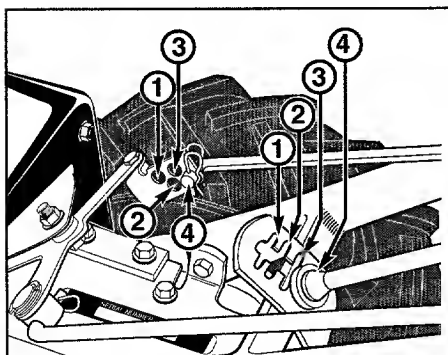

Figure 3-6: Handlebar height slots and clutch swivel plate holes.
- (b) There are four numbered holes in the clutch swivel plate (see Figure 3-6) and four numbered slots in the curved height adjustment bracket. For correct operation of the Forward Clutch mechanism, the numbered hole used for the Forward Clutch rod must match the numbered slot in the height adjustment bracket. Example: If handlebar is in slot #4, put Forward Clutch rod in hole #4 of clutch swivel plate.